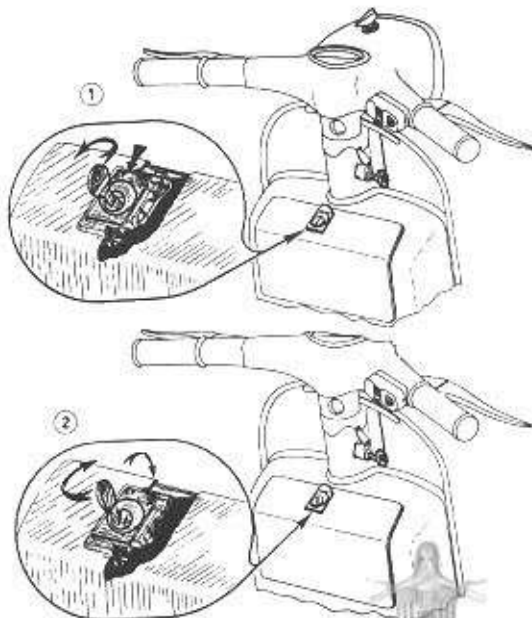

Fig. 6—Front tool box [scooterhelp.com](http://www.scooterhelp.com)
2. Front tool box lock	<p>To open the flap door of the front box insert the key in the lock and turn it anti-clockwise, then slide down the external plate of the lock (fig. 6).</p> <p>In order to close it, shut the flap door and press down until the lock clicks against the tool box; then turn the key clockwise and extract it.</p>